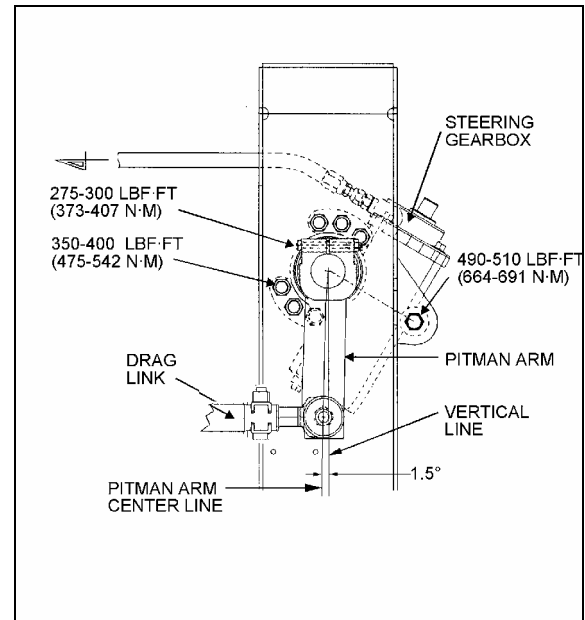

FIGURE 7: PITMAN ARM ALIGNMENT
| FIGURE 7: PITMAN ARM ALIGNMENT | 16(IFS)-7 |
1. The pitman arm should be adjusted with reference mark aligned or to an angle of 1.5° in relation with the vertical axis (Fig. 7).
2. Install bolt, washer and nut. Tighten nut to 275-300 lbf•ft (373-408 N•m) (Fig. 7).